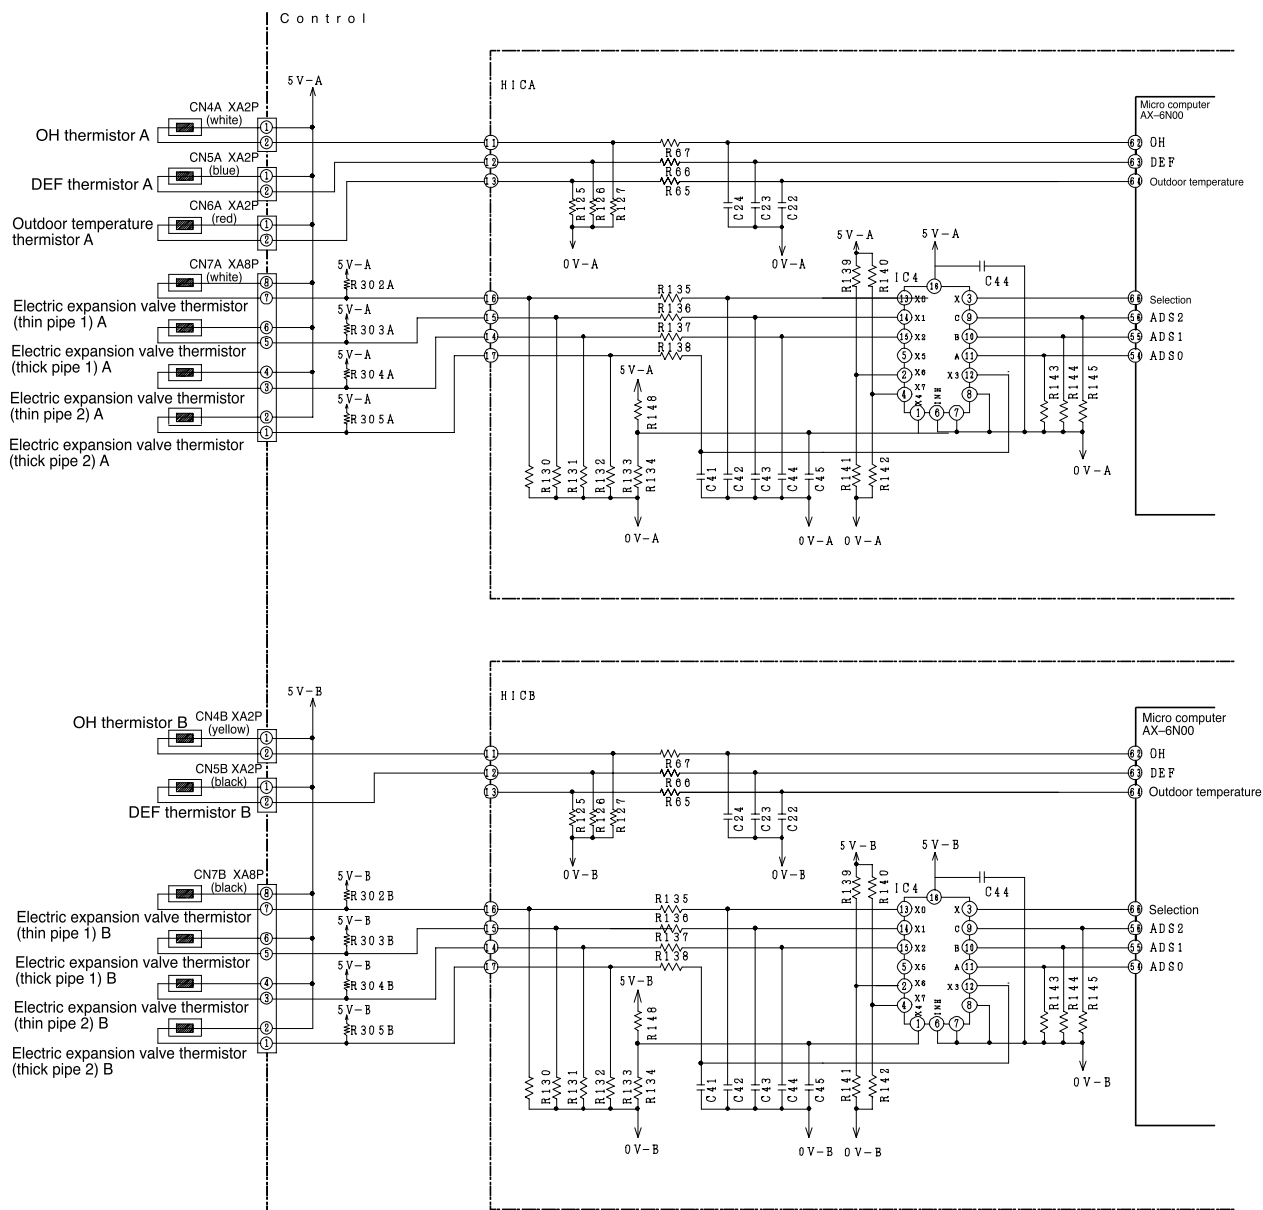

Fig. 6-1 Temperature Detection Circuit
- The circuit of the thermistors is shown as Fig. 6-1, and their roles and temperature measuring points are shown as Table 6-1. The DEF thermistor, OH thermistor and electric expansion valve are for A cycle and B cycle respectively. The outdoor temperature thermistor is common to A cycle and B cycle.